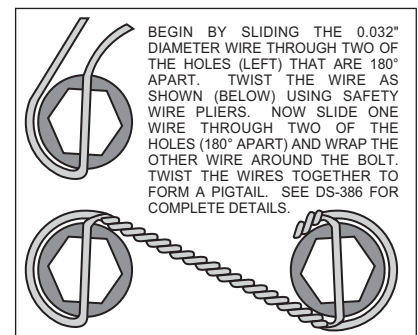

Figure 4. Safety Wire Diagram
- Mount bracket (6) to the backside of the spindle/hub assembly using bolts (11), lock washer (12) and flat washer (13).
- With the larger I.D. side of the rotor (14) facing away from the hat (15), bolt rotor (14) to hat (15) using washers (16) and bolts (17). Torque bolts (17) to 85 **in-lb**. Safety wire bolts (17) using standard 0.032 inch diameter stainless steel safety wire as shown in Figure 4. Please refer to Wilwood's data sheet DS-386 (available at www.wilwood.org/ds386.pdf) for complete safety wire installation instructions. Slip the rotor (14) and hat (15) combination onto the wheel studs and hold in place with three lugs nuts.
- Apply red *Loctite*® 271 to bolt threads (2) before mounting caliper to the caliper mounting bracket (1). **NOTE:** Be sure the heads of the 7/16-20 bracket (1) insert nuts are facing outward toward the wheel.
- NOTE:** Please reference the caution statement at the beginning of the assembly instructions. With the bleed screws pointing up, mount the caliper (5) to the caliper mounting bracket (1) using bolts (2), lockwasher (3) and flat washer (4). Torque bolts (2) to 47 ft-lb. Mount caliper bracket combination to the spindle bracket (6) using bolts (7) and lock washer (8) while placing a shim washer (9) and spacer (10) between the two brackets (1 and 6). Finger tighten only at this time.
- View the rotor (14) through the top opening of the caliper (5). The rotor (14) should be aligned in the center of the caliper (5). If not, adjust the caliper (5) by using 0.032 inch thick shims (9) placed between the caliper mounting bracket (1) and the spindle bracket (6). Finger tighten and recheck alignment. Apply red *Loctite*® 271 to bolt threads (11) and torque to 47 ft-lb. Safety wire caliper bolts (2), see Figure 4.
- Remove the bridge bolt from the caliper (5) and install the disc brake pads (17). Reinstall the caliper bridge bolt.